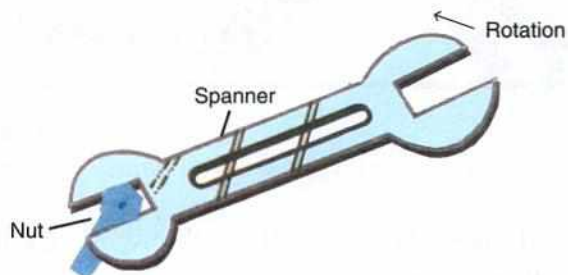

Fig. 4.2 A spanner is used to open a tight nut
2. Suppose you are to open a tight nut. You will find it difficult to open it with your fingers. But if you use a spanner as shown in Fig. 4.2, to open it, you will find it easier to open the nut.